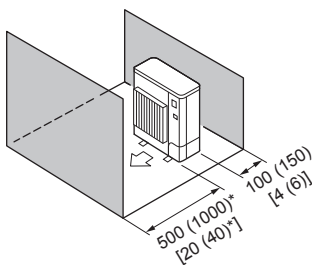

Fig. 2-10
- ⑤ Obstacles at front and rear only (Fig. 2-10)
- ⑥ Obstacles at front and rear only (Fig. 2-10)